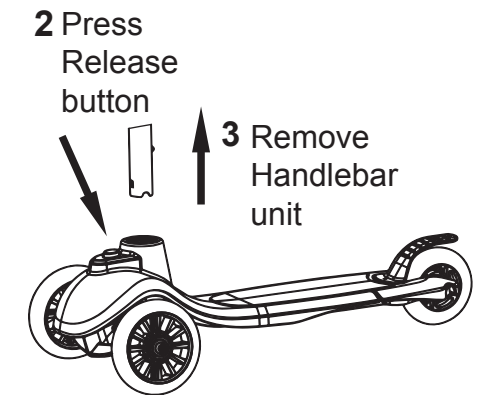

Fig.2
- (2) To remove the handlebar press the release button on the top of the footplate (3) and remove the handlebar by sliding it upwards as shown in fig.2